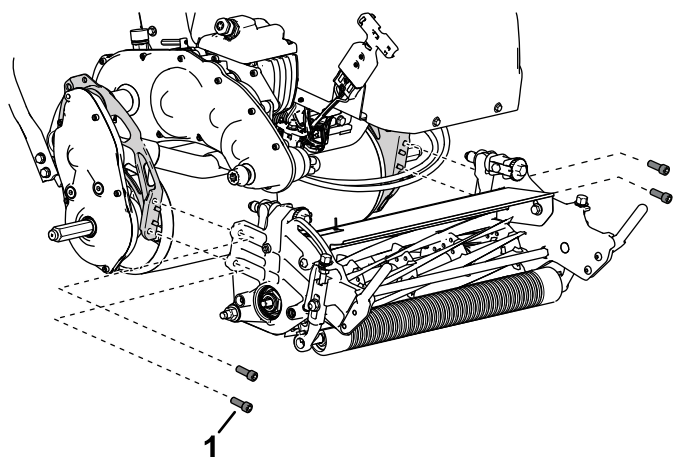

Figure 41
4. Remove the socket-head screws that secure the cutting unit to the frame (Figure 41).